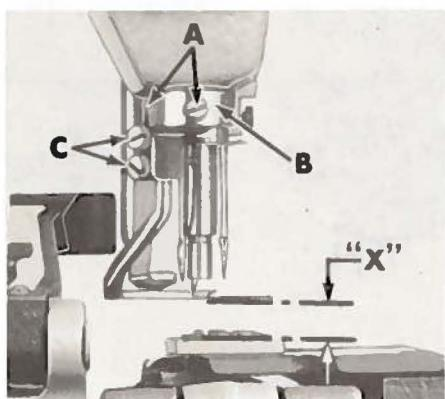

Fig. 12
With the needle bar in its up position, and the spreader (A, Fig. 11) at the left end of its stroke, the upper spreader point should extend 7/32 inch (5.56 mm) to the left of the centerline of the center needle. This is accomplished by loosening screws (A, Fig. 12) and rotating spreader holder (B) to position the upper spreader point. Retighten screws.
CAUTION: The spreader holder is also the lower thrust collar for the spreader shaft, so when tightening screws (A, Fig. 12) be sure to push down on the spreader shaft and up on the spreader holder.
The spreader should clear the left needle shank by 1/64 to 1/32 inch (.40 to .79 mm) on all machine Styles. The bottom of the spreader should be 21/64 inch (8.33 mm) above the throat plate on machine Style 57900 H and 27/64 inch (10.72 mm) above the throat plate on machine Style 57900 N ("X", Fig. 12). Adjustment can be made by loosening screws (C, Fig. 12) and position spreader as required.